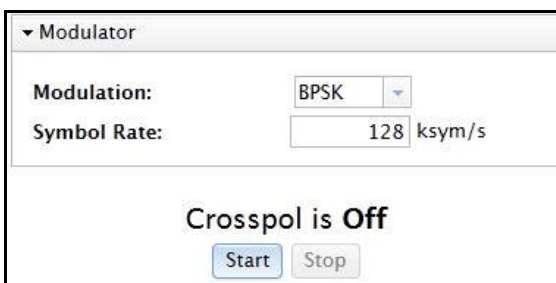

Figure 52. Web iSite: Transmitting a Modulated Carrier
- a. In the Modulation field of the Modulator section, select BPSK (Figure 52).